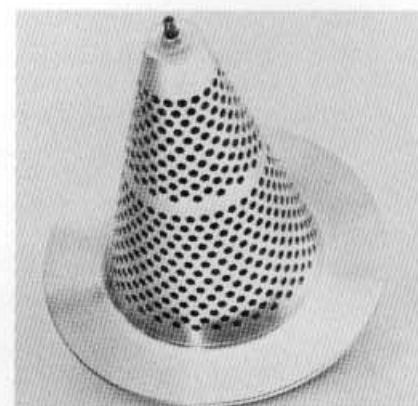
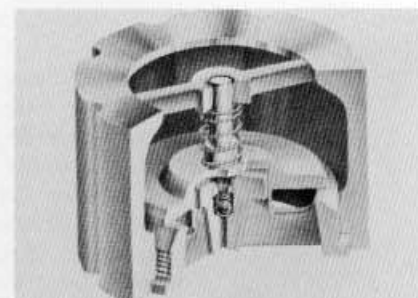

Figure 6
Figure 7
6. Cone type - features an elastomeric conical unit inside of a perforated cone. The elastomeric cone collapses to allow normal flow and seals off perforated cone to eliminate back flow. See Figure 6.
7. Special purpose valves - for air and gas service see Figures 6 and 7.
Pulsating flow frequently attributed to reciprocating compressors can make any normal check valve disc operate like a high speed yo-yo. Service life under these conditions is usually brief. Special check valves such as the cone type (Fig. 6), one with lightweight disc arrangement or one having an internal dashpot to effect pulsations dampening (Fig. 7) may be satisfactorily used for this service.